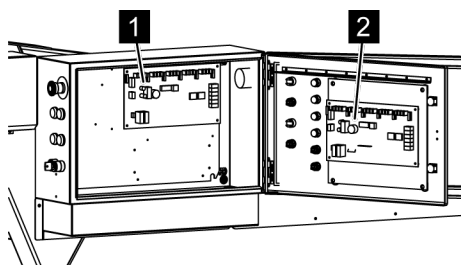

Fig. 151: Fuzzy control card
3. ➤ The fuses are on the fuzzy control card (Fig. 151/1 and 2). Replace defective fuse with a new fuse of equal amperage ( ↪ Chapter 8.6 'Fuses' on page 168).